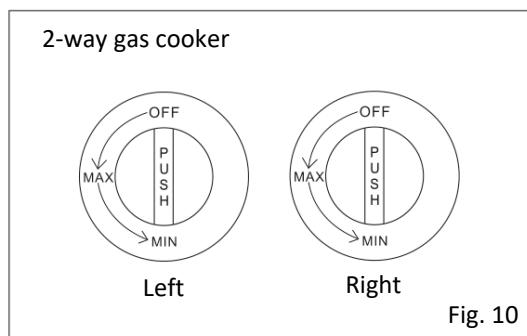
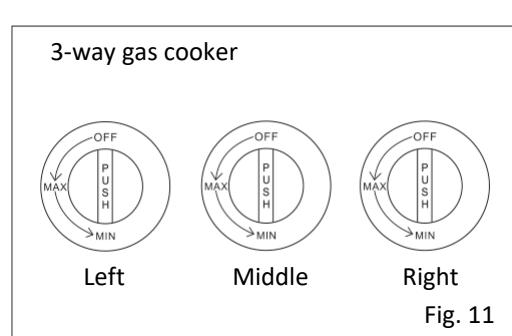

Fig. 10
Fig. 11
3. Place the gas control knob onto the gas cock axis and push it inwards firmly. (Fig. 10), (Fig. 11)